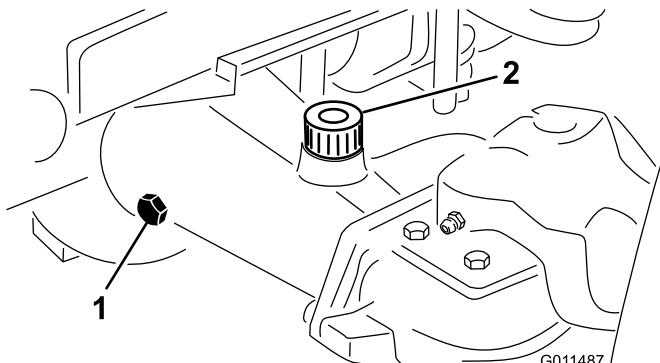

Figure 64
- Remove a check plug from the end of the axle and ensure that the lubricant is up to the bottom of the hole (Figure 64).